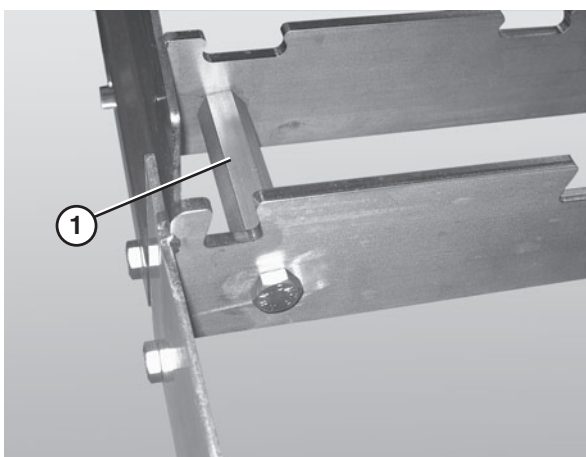

Figure 8
- Connect the frame sections by bolting the hex post connectors (**Figure 8, item 1**) to the cross member supports of each frame section.